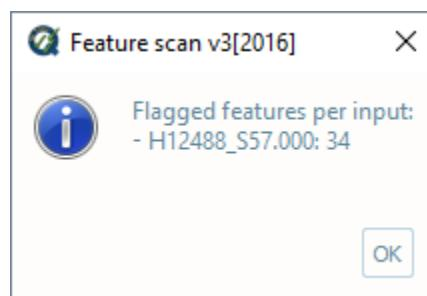

Fig. 2.68: Feature scan's output message.
- After computing, the output window opens automatically, and the results are shown (Fig. 2.68).